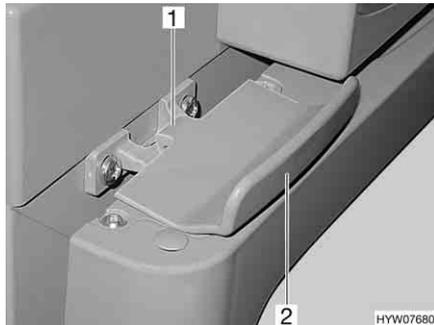

Fig. 241 Lock of refrigerator door, closed (Thetford)
- Open the refrigerator door at the handle (Fig. 241,2). The lock (Fig. 241,1) is released automatically.